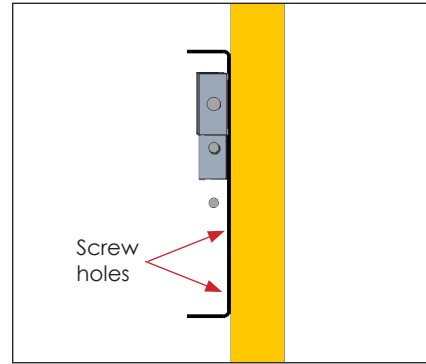

Figure 2: C-Clip Detail
2. Place a seismic screw in one of the bottom two holes. The upper hole provides the clip with symmetry but is not used for attachment. Tighten the screw through the C-clip. Refer to **Figure 2**.